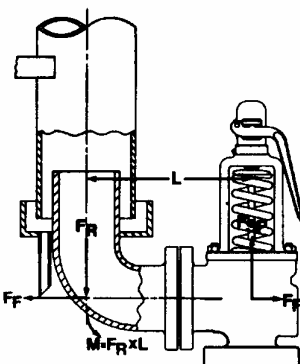

Fig.3 - Valve open flow stabilised at full capacity
After stabilising the flow (Fig. 3), the impact of the fluid on the outlet curve cancels the force ( $FR$ ) and the fluid flows up towards the outlet; a downward force ( $FR$ ) is created along the centre line of the outlet curve.
To modify blow-down, remove the lock nut from the adjusting ring (21) in Figs.1 and 2, or (25) in figures 3÷6 and use a pointed tool to turn the adjusting ring one or two notches at a time. Turn the ring anti-clockwise to lift it and increase the closing pressure drop; turn the ring clockwise to obtain the opposite effect. If the adjusting ring (4) is difficult to move due to impurities that have deposited in the thread, release it by lightly hitting the frame near the ring.